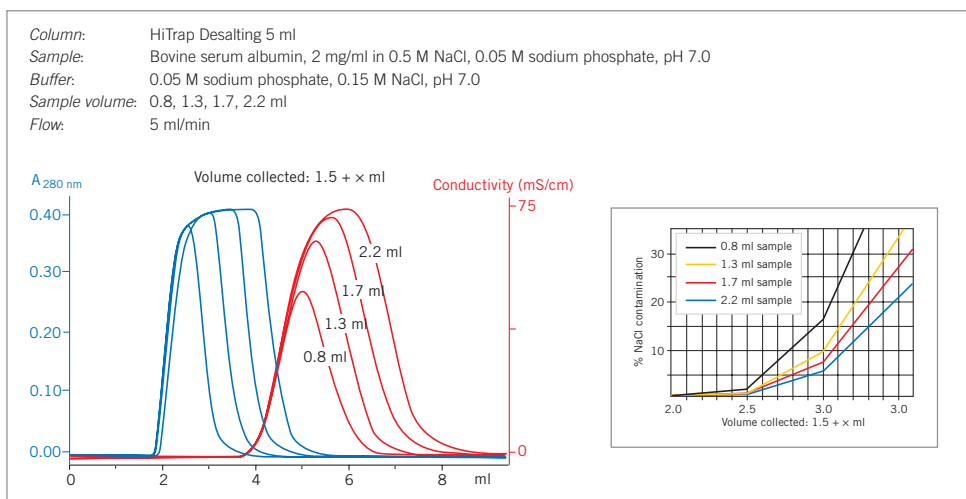

Fig. 49. Influence of sample volume on separation using a HiTrap Desalting column.
4. Determine the maximum sample volume that can be loaded. Figure 49 shows an example of the influence of sample volume on group separation.